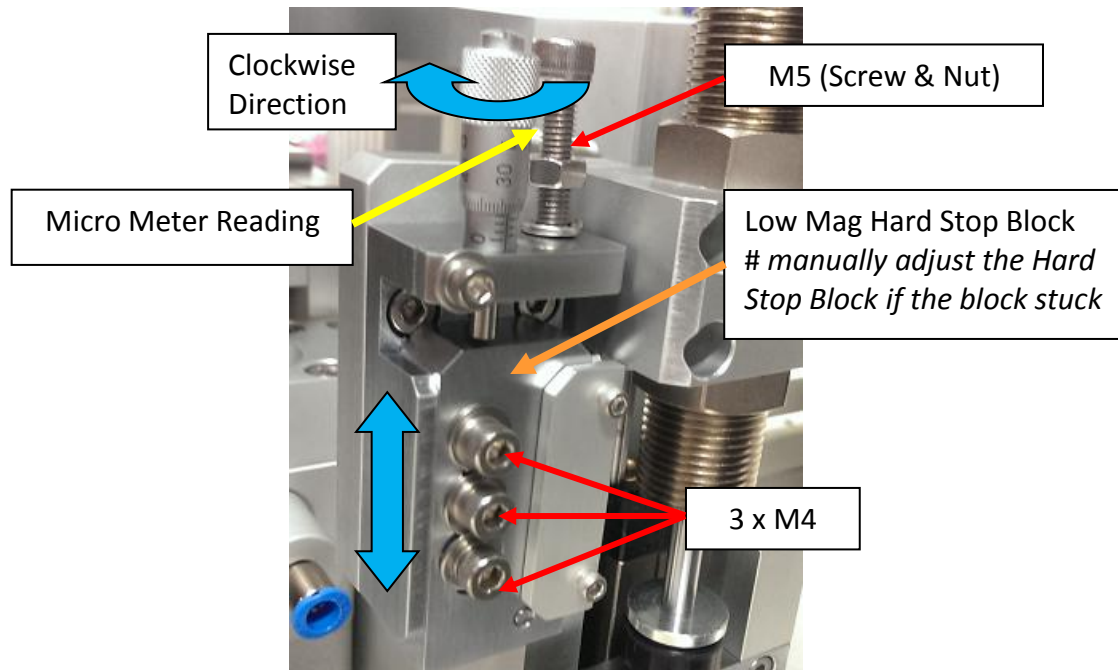

Figure 12
14. Loosen Hard stop Block Screw (3 x M4) and the Hard Stop Support Screw & Nut (M5) as Figure 12.